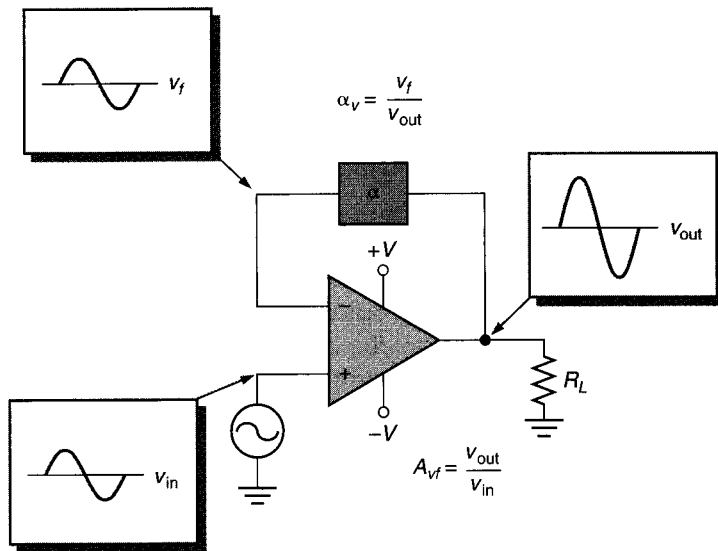

FIGURE 15.46
**OBJECTIVE 16** ► Now that you have seen how negative feedback affects the voltage gain and operating bandwidth of an op-amp, it is time to get into its mathematical analysis. For this discussion, we will refer to the circuit shown in Figure 15.46.